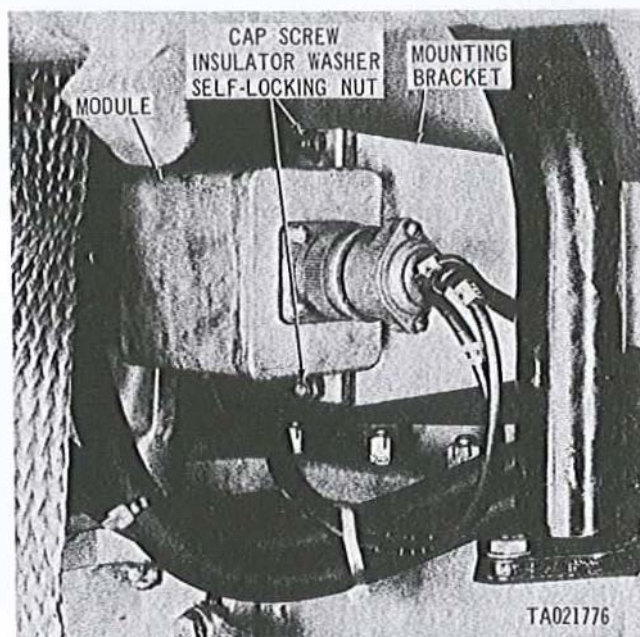

Figure 2-124. Removing or installing starter low voltage protective module.
*a. Removal.* Disconnect wiring harness. Remove two capscrews, insulator washers and self-locking nuts (fig. 2-124) and remove module from mounting bracket.
*b. Installation.* Install module (fig. 2-124) on mounting bracket and secure with two capscrews, insulator washers and self-locking nuts. Connect wiring harness.